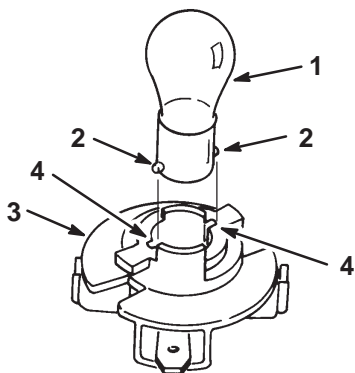

Figure 50
4. Push and rotate the bulb counterclockwise until it stops (approx. 1/4 turn) and remove the bulb from the bulb holder (Fig. 50).
1. The bulb has metal pins on the side of its base. Align the pins with the slots in the bulb holder and insert the base into the holder (Fig. 50). Push and rotate the bulb clockwise until it stops.